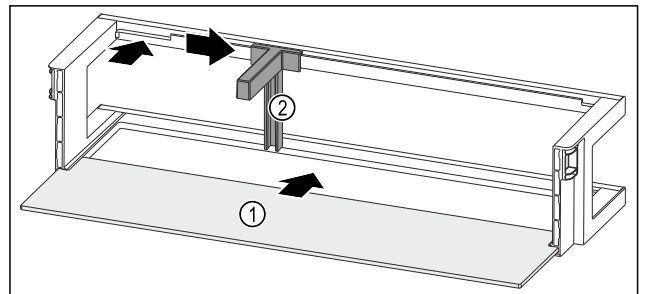

Fig. 96 Door rack with shelf
- Push the shelf *Fig. 96 (1)* into the side recesses.
- Insert the bottle holder *Fig. 96 (2)* in the recess.
- Push the bottle holder *Fig. 96 (2)* to the desired position to the side.